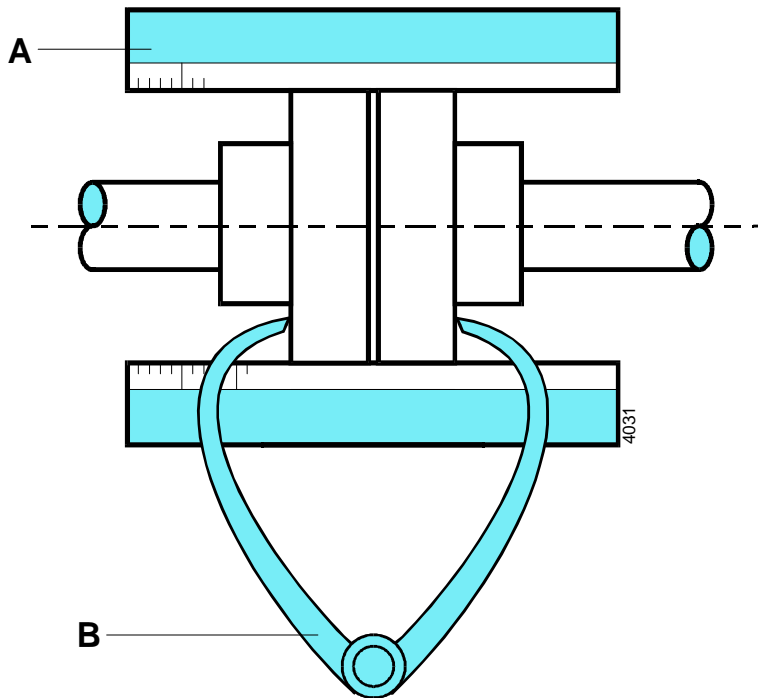

figure 4: Alignment of the coupling.
- 1 Place a ruler (A) on the coupling. The straight edge must touch both coupling halves over their entire width, see figure 4.
- 3 To de certain the check is also undertaken using external calipers (B) at 2 diametrically opposed points of the sides of the coupling halves, see figure 4.